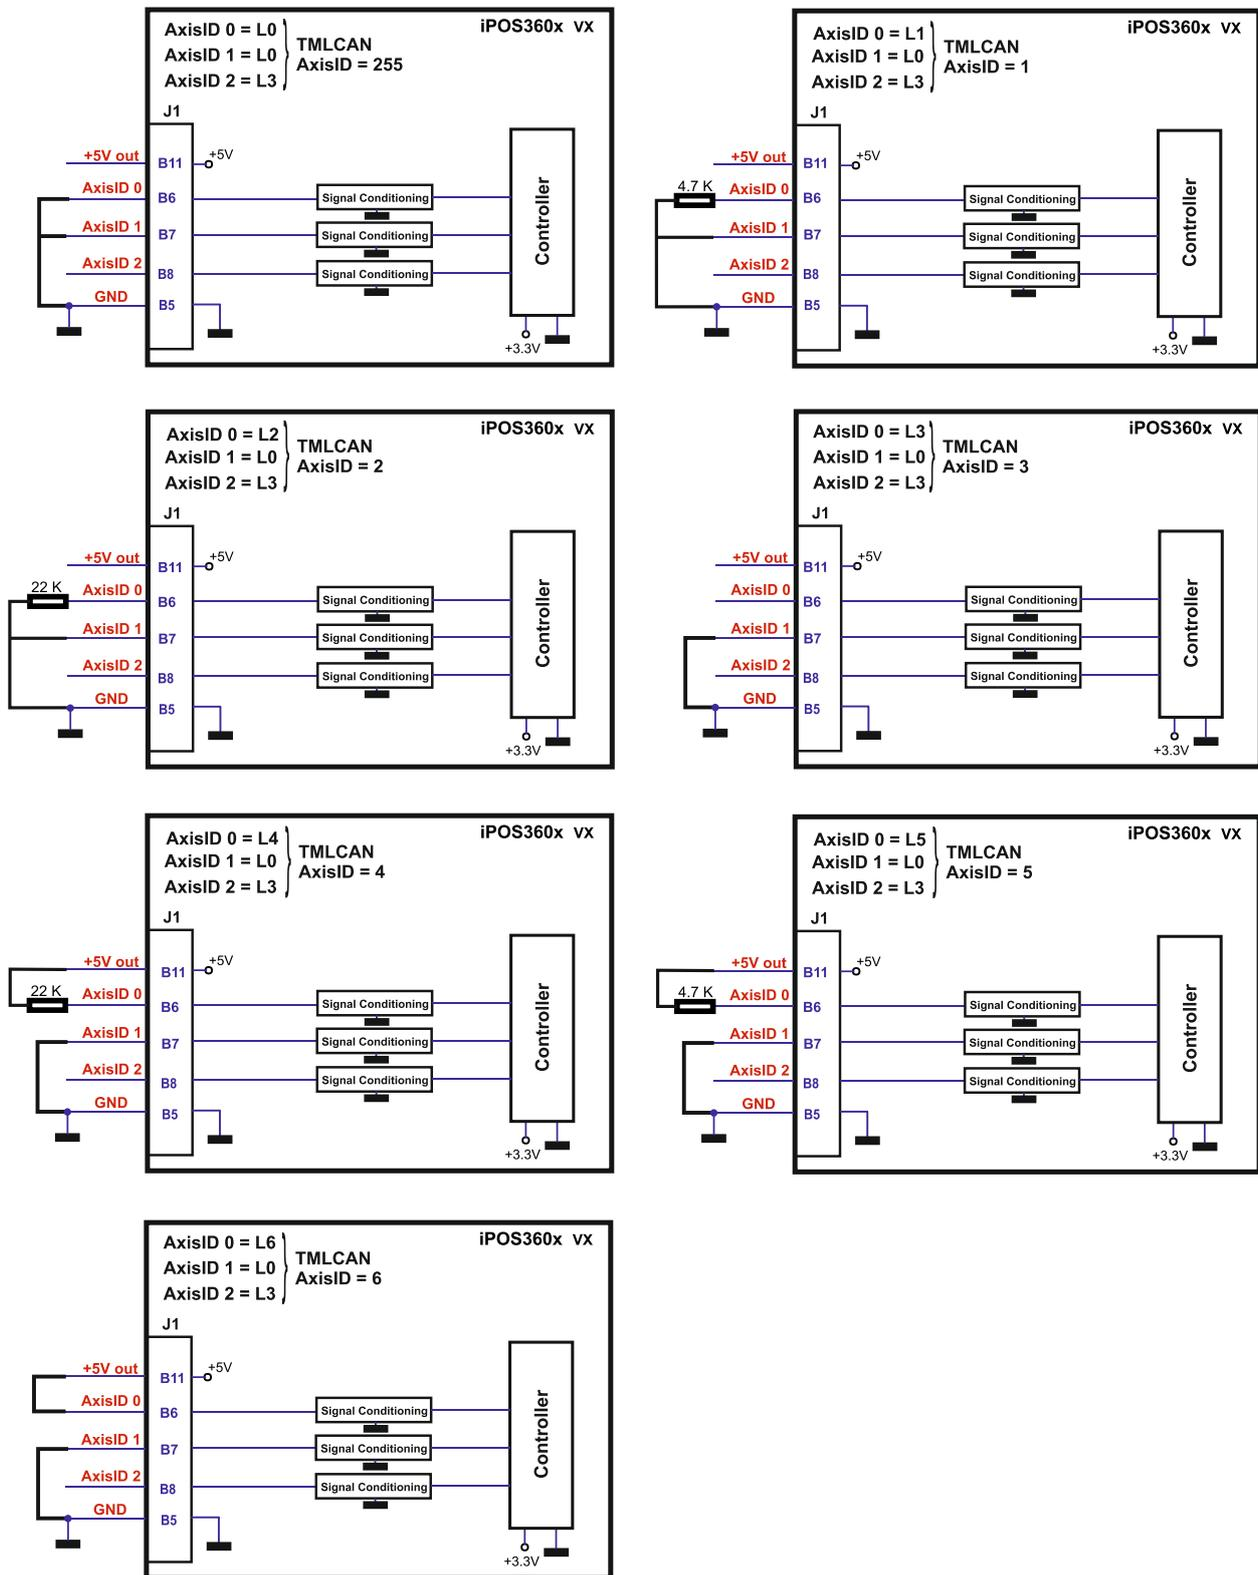

Figure 3.34. Axis ID Setting Examples. TMLCAN mode
**Figure 3.34** shows how to set the 7 levels on the AxisID 0 input and the resulting axis ID values when AxisID 2 input level is set for **CANopen** operation. Chapter **3.9.1** shows how to set all possible values for axis ID in this mode of operation.